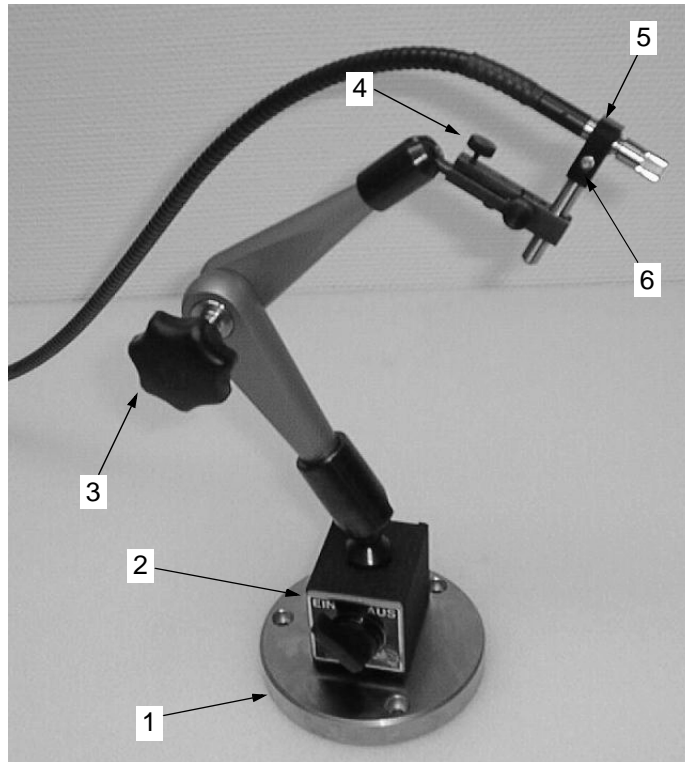
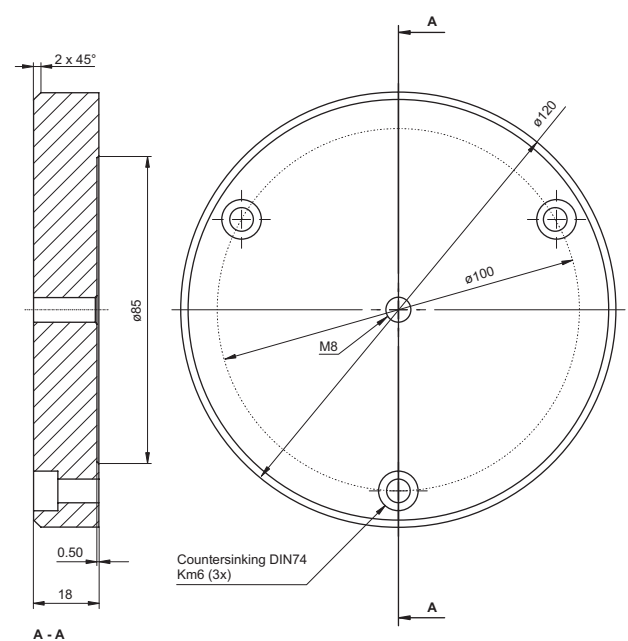

Figure B.4: Flexible arm OFV-039 for the mini sensor
Figure B.5: Base plate for the flexible arm OFV-039 (dimensions not specified are given in mm)
The flexible arm OFV-039 is a mount device for the mini sensor of the sensor head OFV-511/-512. The mini sensor can thus be easily positioned in places which are difficult to access. The heavy steel base ensures that it stands securely and if required the steel base can be screwed onto the surface beneath via the drilled mounting holes (refer to figure B.5). Alternatively, the flexible arm can be attached to any magnetic surface which is large enough using the magnetic base. The flexible arm is shown in figure B.4.
- 1 Base plate with drilled mounting holes (refer also to figure B.5)
| Base plate dimensions: | refer to figure B.5 |